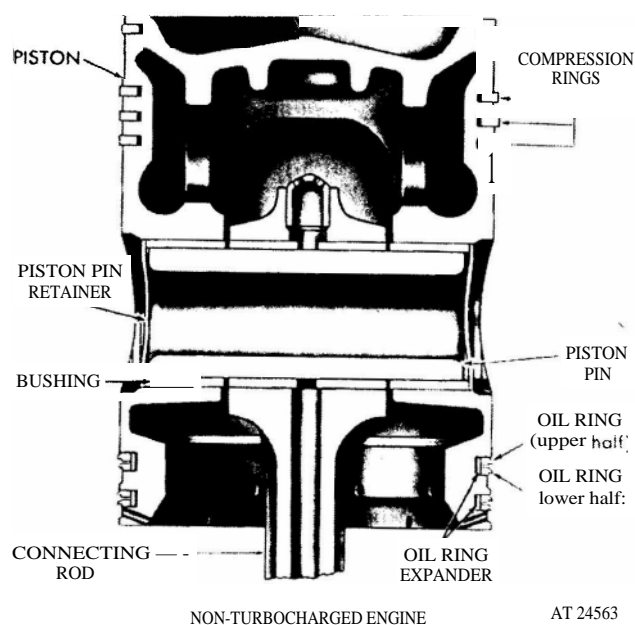

Figure 1. Typical piston assembly.
The trunk type malleable iron piston, figure 1, is plated with a protective coating of tin which permits close fitting, reduces scuffing and prolongs piston life. The top of the piston forms the combustion chamber bowl and is designed to compress the air into close proximity to the fuel spray.
6. Refer to figures 1 and 2 in section 1.6.1 and remove the bearing cap and the lower bearing shell from the lower end of the connecting rod; then push the piston and rod assembly out through the top of the cylinder block. The piston and rod cannot be removed from the bottom of the block.